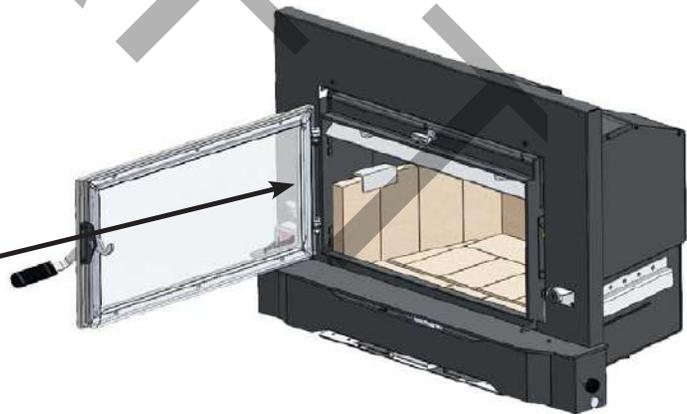

Fig. 18
2. Hold bottom nuts using a 9/16" wrench. Use a 1/4" Allen head screwdriver to back nuts off the bolts. **(Fig. 18)**